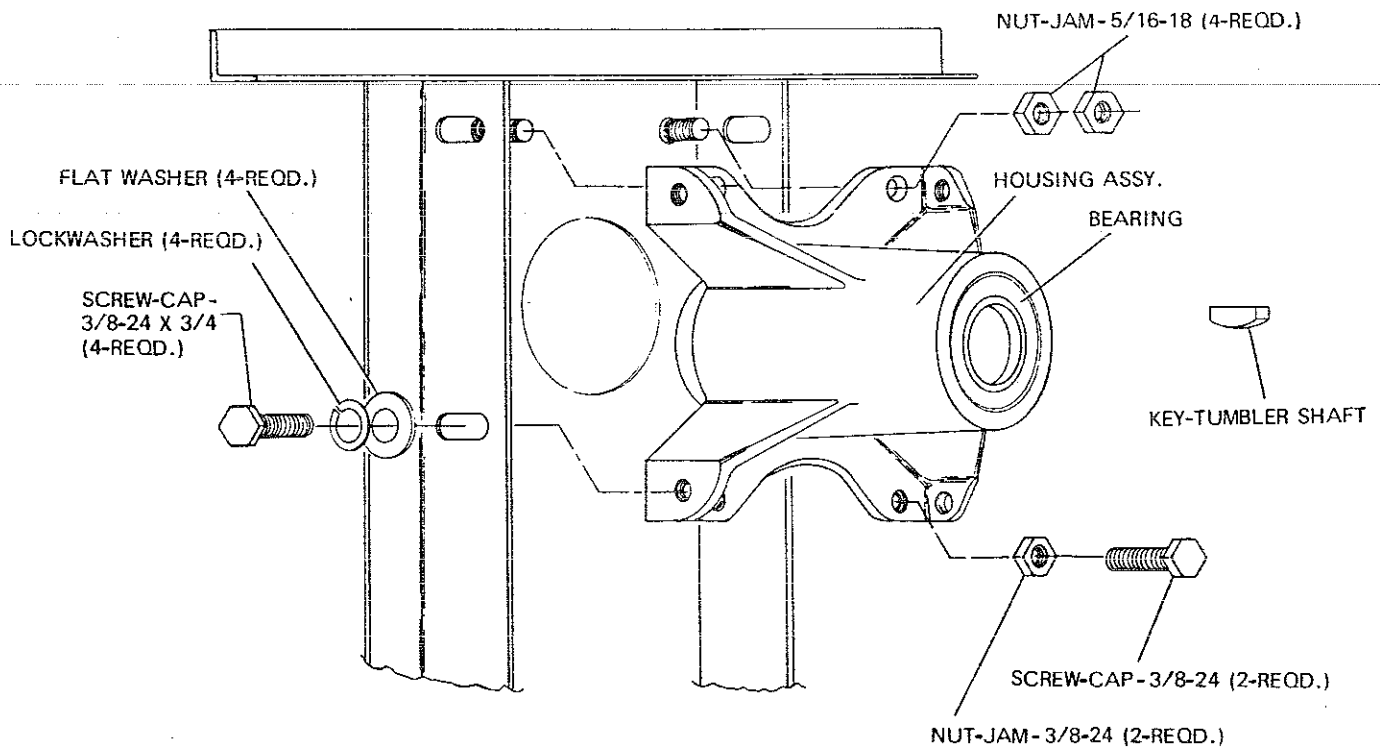

Figure 3-12. Tumbler Bearing Assembly
4. To reassemble, the cylinder shaft must be guided into and through the tumbler bearing housing assembly. A dummy shaft will be required for insertion into the rear of this housing assembly. This will line up the bearing spacer with the bearings in the housing assembly. (Refer figure 3-12).
3-35 ADJUSTMENT OF CYLINDER WITH FRONT PANEL IN POSITION (Refer figure 3-12).
3-36 BEARING HOUSING BEARING REMOVAL (Refer figure 3-12).